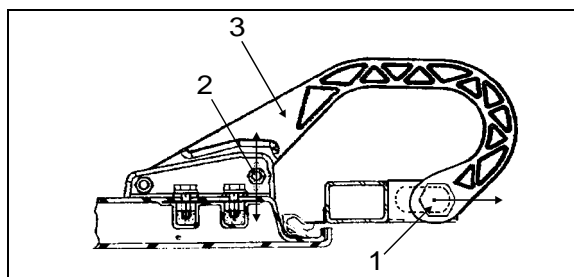

FIGURE 80: DOOR HINGE
2. Loosen nut (1, Fig. 80).
3. Move part (3, Fig. 80) as shown in figure for "LEFT or RIGHT" adjustment.
4. Tighten nut (1, Fig. 80).
5. Loosen nut (2, Fig. 80).